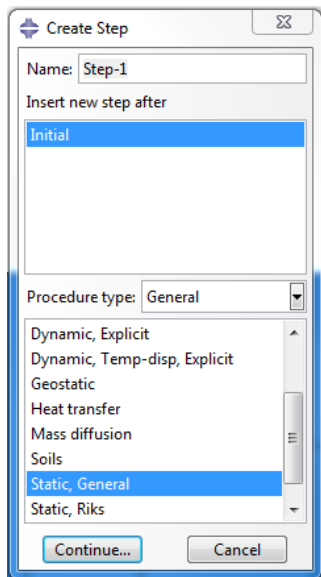
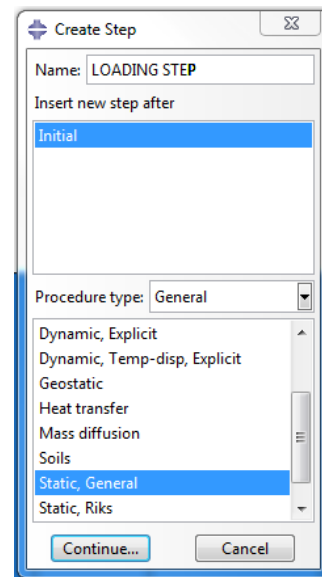

Figure 25a. Create Step Dialog Box
Figure 25b. Create Step Dialog Box (LOADING STEP)
- In the model tree, double click the **Steps (1)** icon. The **Create Step** dialog box will appear (Figure 25a). Create a **Name** for the step called **LOADING STEP**. Under **Procedure type** choose **General > Static, General**. The **Create Step** dialog box should look identical to Figure 25b.